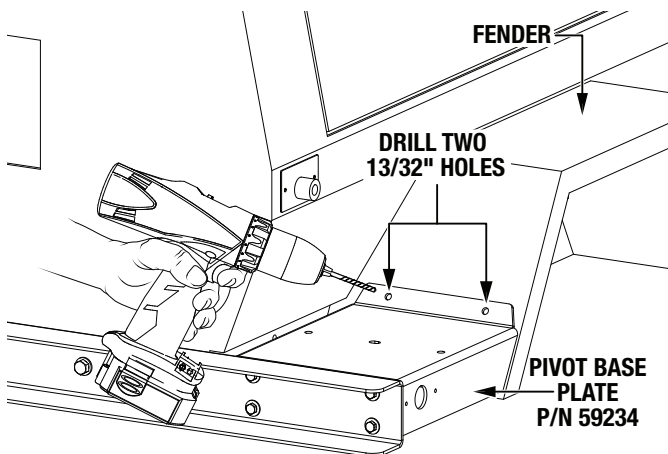

Figure 15. Drill Pivot Base Plate Holes
2. Using the pivot base plate (P/N 59234) as a guide, drill two 13/32-inch holes into the fender. See Figure 15.